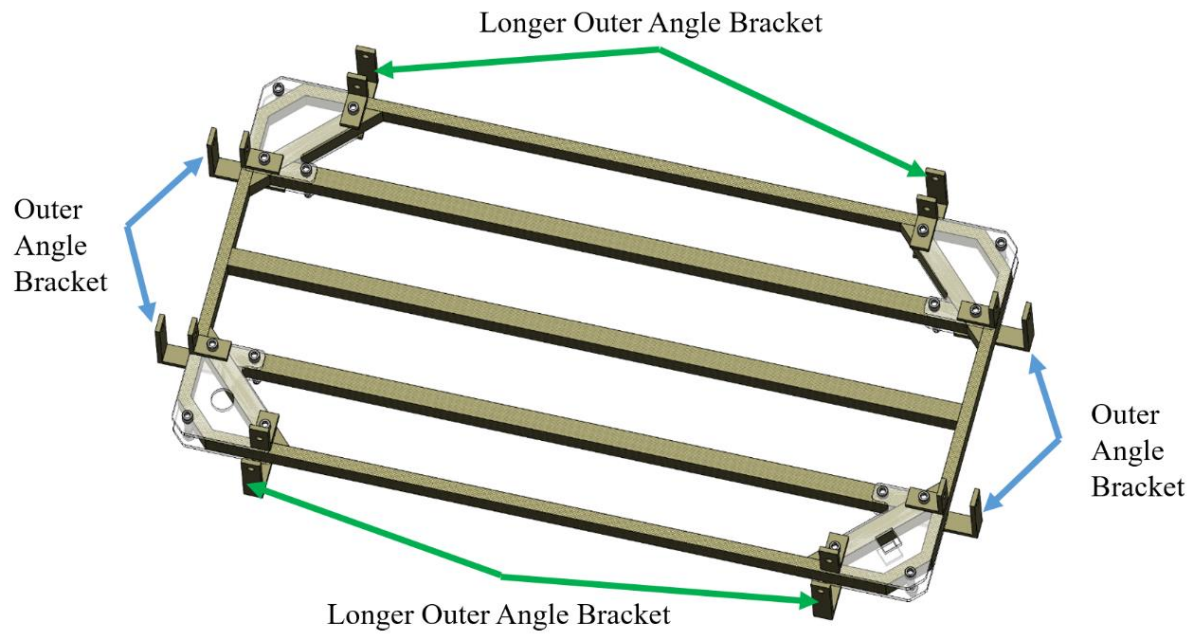

Figure 10.6
14. Epoxy the Inner Angle Brackets (THOA002) in the configuration shown in Figure 10.6. While the brackets on the outside are not all the same size (see steps 8 and 9 for the configuration of the differently sized outside brackets) the eight brackets on the inside (Inner Angle Brackets) are all the same. The holes in the Inner Angle Brackets should line up to the holes through the acrylic sheets and braces. The Corner Support for Plug should be epoxied to one of the Inner Angle Bracket faces. Immediately after putting the epoxied angles into place, bolt through the Angle Brackets, Acrylic Supports, and Braces using eight 2.5" 3/8-16 bolts (PN OUTS003) and eight 3/8-16 nuts (PN OUTS004). Ensure that the bolt heads are on the same side as the bolt heads already in the assembly. See Figure 10.6 for reference. The epoxy should still be wet when these are bolted in.